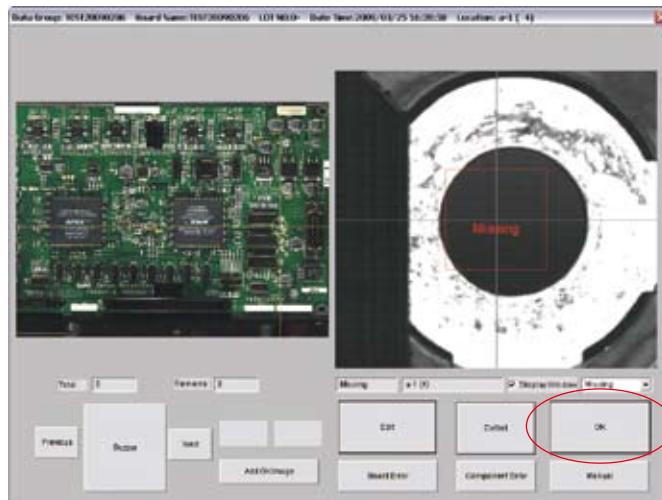

Figure 3-17 Monitor Mode
Step16: Start sampling. Scan 10 OK PCBs. The window shown in Figure 3-17 appears and press **OK**.